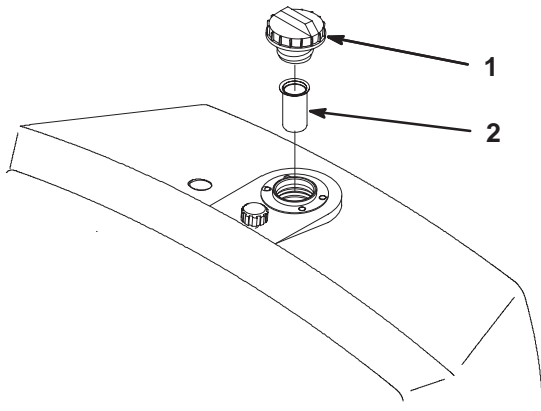

Figure 21
- Remove the cap from the reservoir and check the level of fluid. The fluid should be up to the bottom of the screen in the filler neck (Fig. 21).